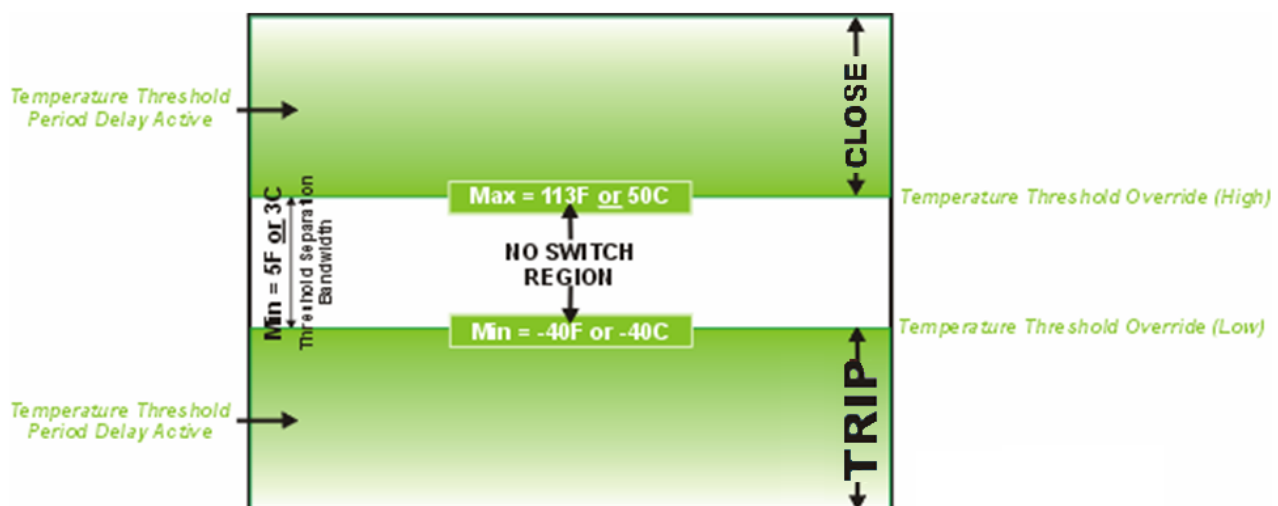

Figure 3.4 – Temperature Only Threshold Map
- Minimum temperature separation levels between the High and Low Override Thresholds are **6°F** and **3°C** respectively. This separation allows for fluctuations in temperature measurement thereby reducing the chance of switch hunting (Figure 3.4).